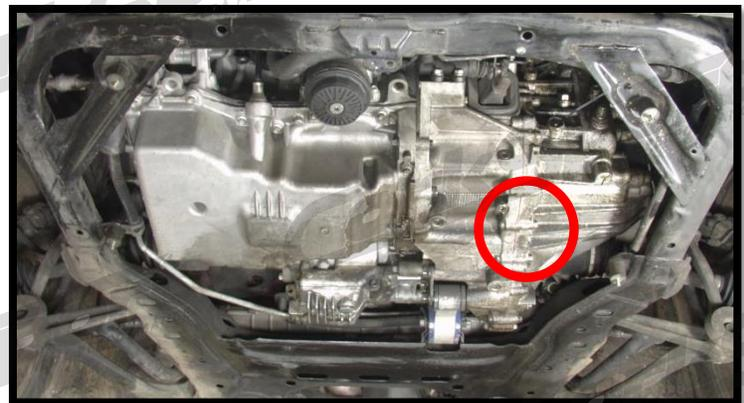

Figure 4c
c) Place a jack under the transmission (red circle in Figure 4c) and slowly jack until the motor mount barely lifts from the frame rail.